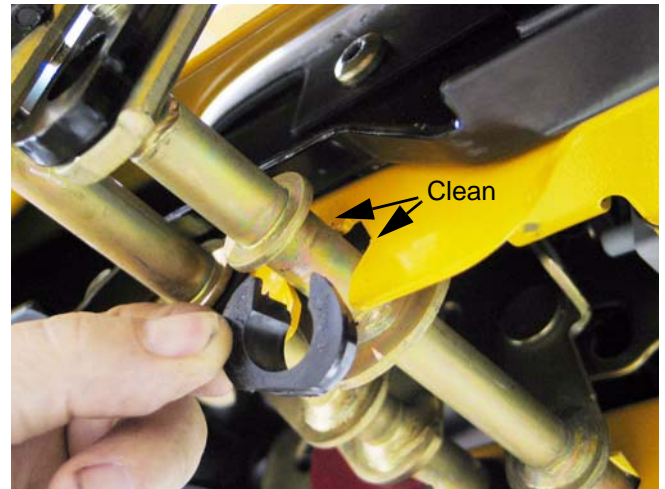

Figure 27.6
- 27.6. Clean any corrosion or dirt from the surfaces where the pedal shafts contact the bushings, and slip the new bushings into place. See Figure 27.6.